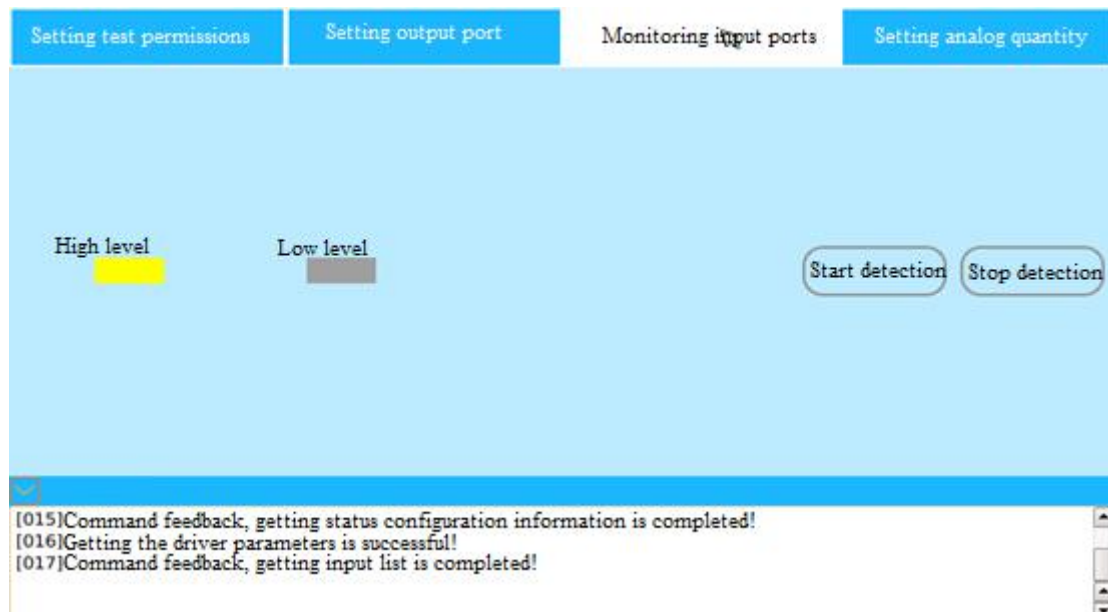

Fig. 2.13 Monitoring Input Port
(3) Monitoring input port: I/O input port monitoring is also performed after the “test authority” setting is completed. As shown in Fig. 2.13, the control system represents different status with different colors, and the “grey” represents an external “no signal” access system, i. e., a low electrical level (the system initial state is low electrical level), and the “Yellow” represents an external “signal” access system, i. e., a high electrical level.